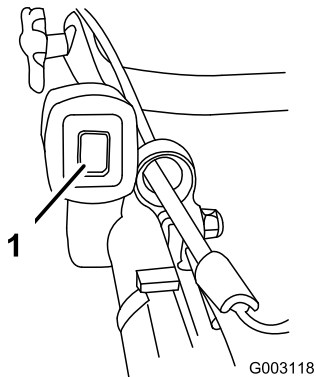

Figure 13
1. Push the ignition toggle switch to the On (“I”) position (Figure 13).